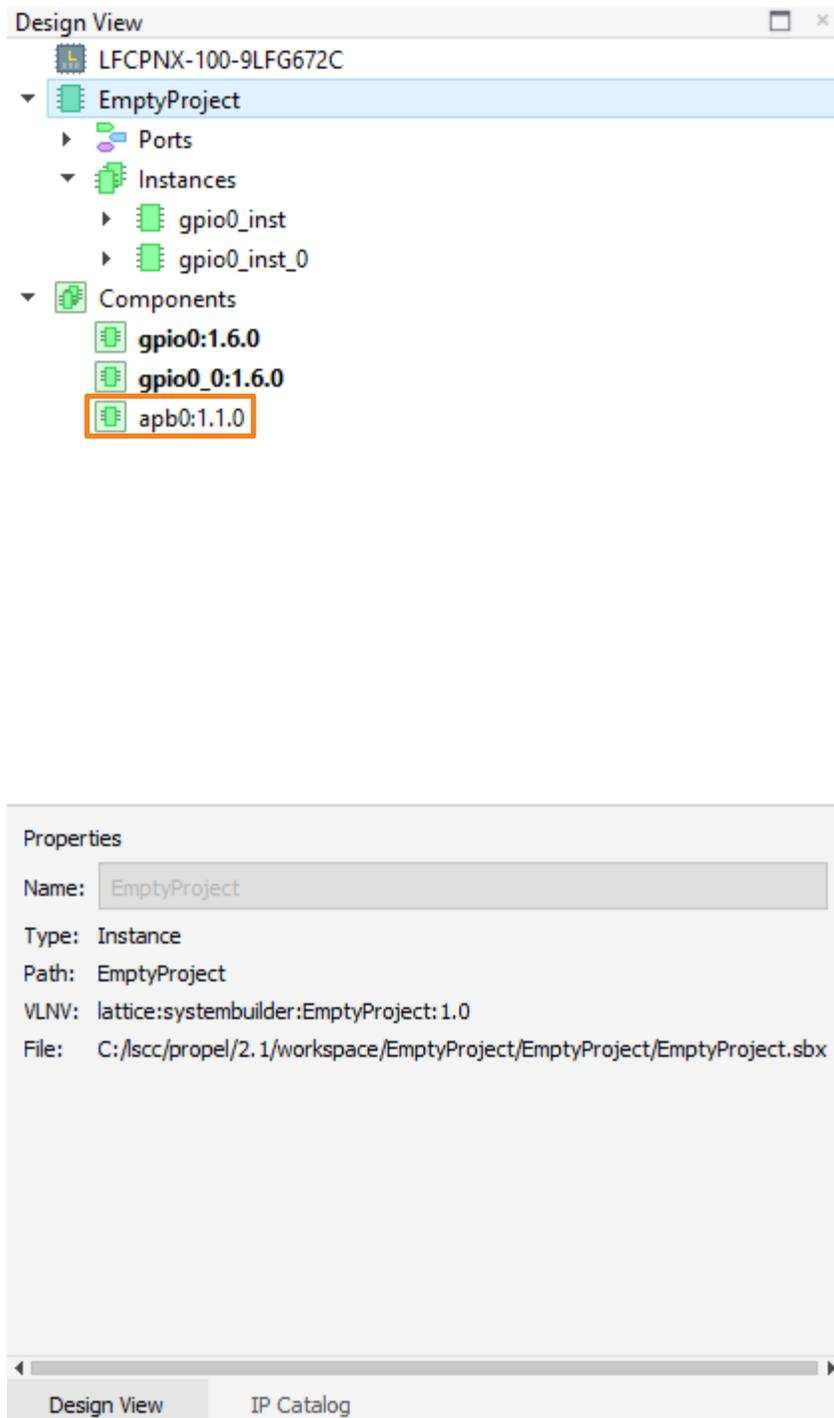

Figure 2.39. Design View
- a. In the List view of the Design View (Figure 2.39), go to the Components folder. The deleted module can still be found in the List view in plain text. Those not deleted are shown in bold-faced text.